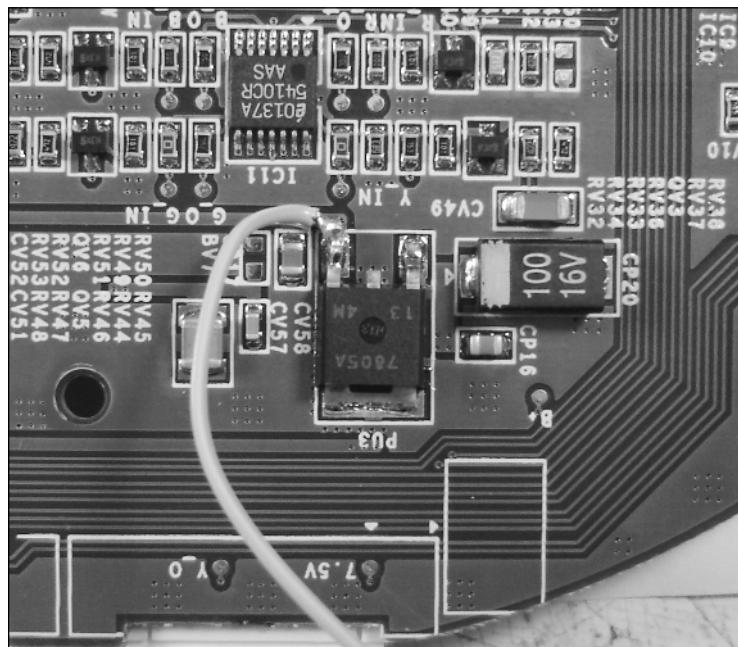

FIGURE 4-27: Where to get +5 volts. (If you look closely, you can see that the regulator is labeled "7805.")
11. Flip to the back of the board, and look for the power regulator seen in Figure 4-27. Attach a wire to the left side lead. This will be your +5 volts for the white LEDs.